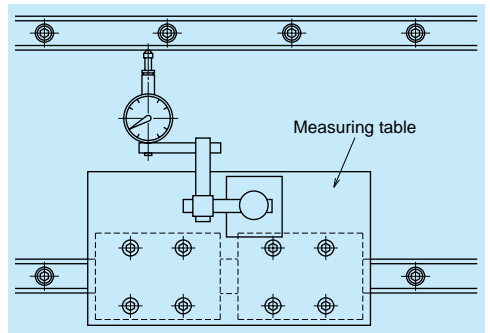

Fig. II-9-15 Measuring parallelism
- ③ If the mounting face of the bed where the adjusting side rail is installed also has a shoulder, repeat the steps (1) - (2).
- ④ If there is no shoulder on the mounting face of the bed for the adjusting side rail: Secure a measuring table to the ball slides of the reference side rail (Fig. II-9-15). Use this to adjust the parallelism of the adjusting side rail. Check parallelism of the adjusting side rail with a dial gauge from one end of the rail, tightening the bolts one by one.
Parallelism between two rails can also be checked by the same method in Fig. II-9-15 when there is a shoulder on the face where the adjusting side rail is installed.